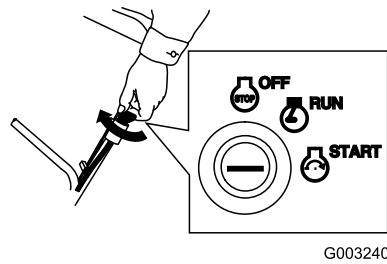

Figure 24
- Turn the ignition key to the Start position; when the engine starts, release the key (Figure 24).